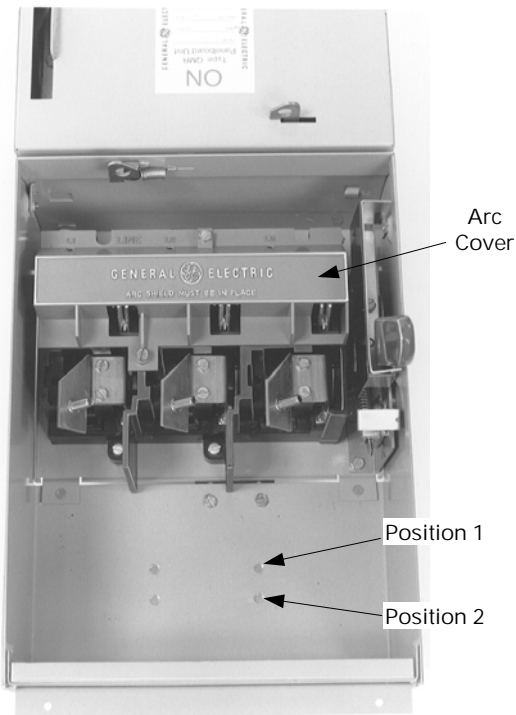
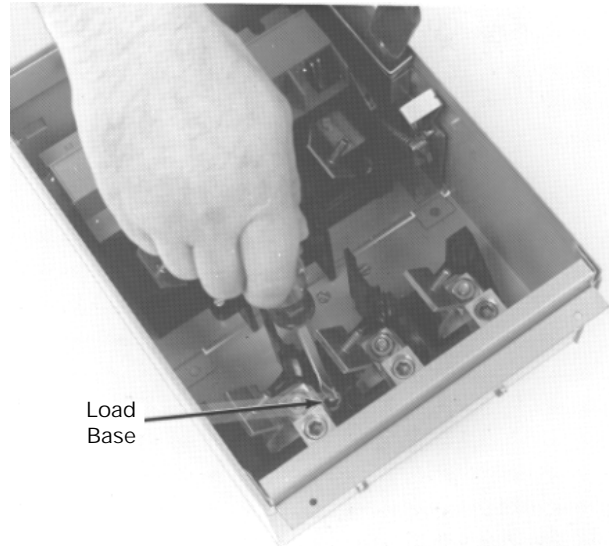

Figure 5. Replacing the arc cover.
Figure 6. Installing the load base.
Replace the hex nuts back onto the plate studs and tighten to 27–32 in-lb. Replace the red arc cover, as shown in Figure 5, and tighten the screws to 12–15 in-lb.
- 5. Install the load base.** Install the load base into the enclosure, as shown in Figure 6. The position depends on the fuse type, as illustrated in Figure 5 and listed in Table 1. Tighten the mounting screws to 40–50 in-lb.